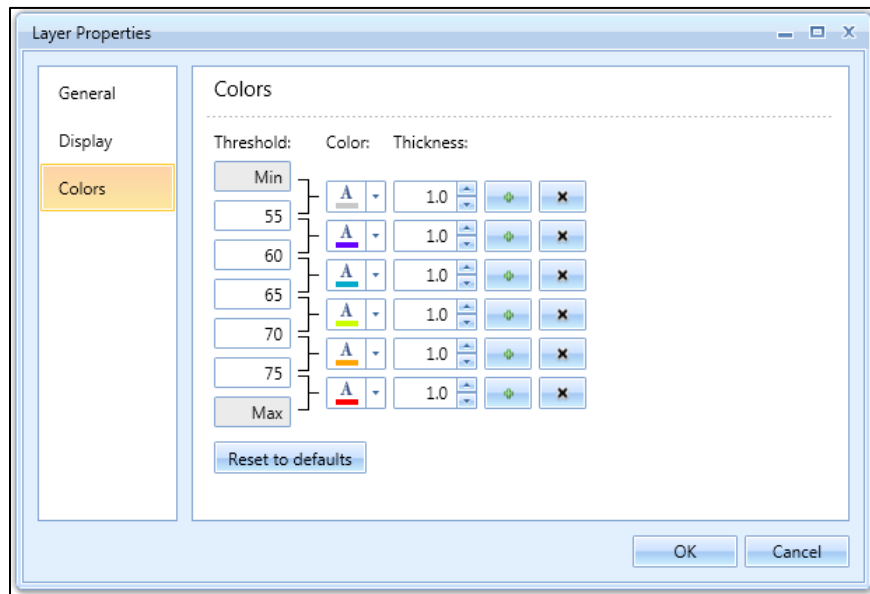

Figure 3-18 Layer Properties Dialog – Colors
5. Click *Colors* (Figure 3-18).